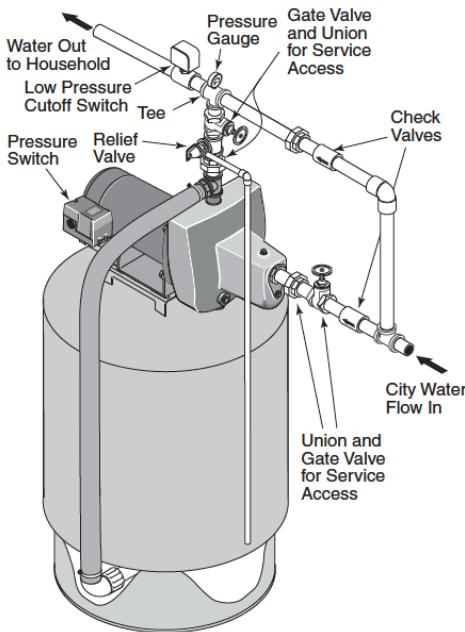

Figure 6: Model SNCP42
2. Install pipe as shown(Figures 6 & 7). Be sure to include unions and stop valves so pressure booster unit can be removed for service without interrupting household water supply.